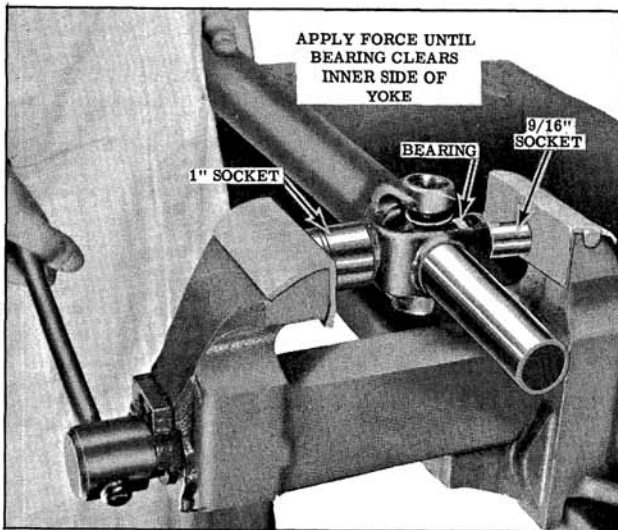

Fig. 10-76 Pressing Bearing From Yoke (Spicer)
2. Press the bearings from the yoke as shown in Fig. 10-76. Continue pressing until bearing which is pushed by the 9/16" socket clears inner side of yoke.